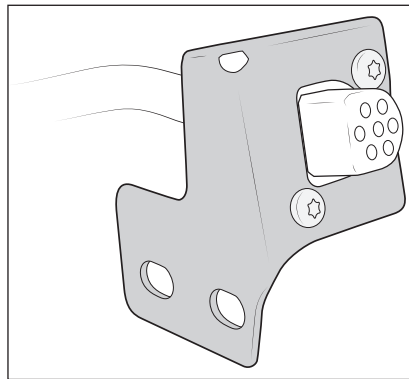

Figure 34
- Attach winch remote mounting bracket to top of connector using M5 bolts from winch kit and nuts from AEV hardware kit. To prevent damage to plastic connector, do not overtighten (fig. 34).